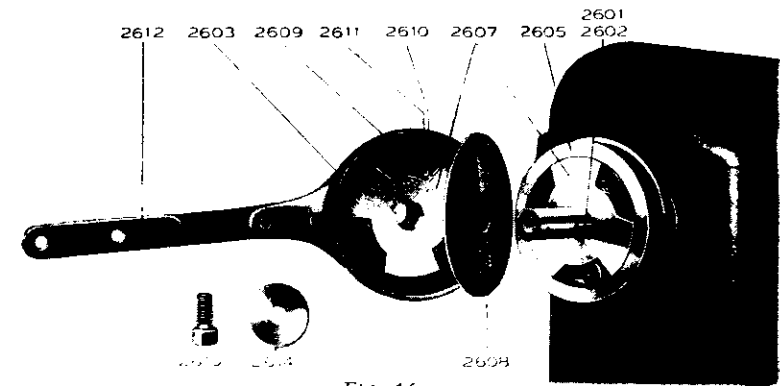

Fig. 16.
On our new lubricating devices the ratchet wheel is substituted with a friction roller stop, see fig. 16. The washer 2608 is located on the shaft between the two disks. The key 2601 is designed for driving to the right and 2602 for driving to the left. The driving housing 2603 and the stop housing 2605 should be filled with grease, and oil shall be used in the holes intended for lubrication.